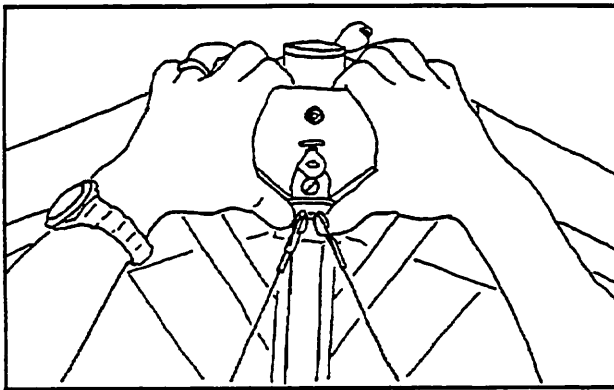

Figure 75
- 2) Detach the bottom nose wires by pulling down on the nose of the glider while pushing upwards on the plastic tang handle on the keyhole tang. (Figure 75) Disengage the aluminum keyhole safety lock prior to attempting to disconnect the tang if so equipped.